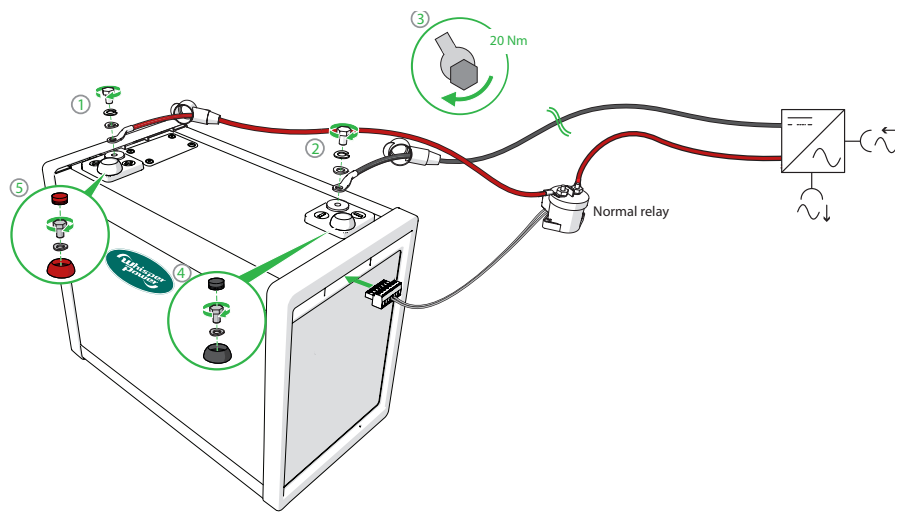

Figure 12. Securing the terminal covers.
1. Connect the + terminal of the battery to the - or A1 terminal of the relay (Figure 12).
3. Connect the - terminal of the battery. Do not connect the - terminal first as this may lead to short circuits (Figure 12).